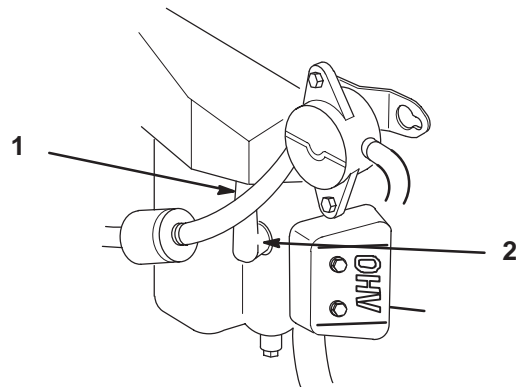

Figure 25
2. Pull the wire(s) off the spark plug(s) (Fig. 25). Now clean around the spark plug(s) to prevent dirt from falling into the engine and potentially causing damage.
3. Push the wire(s) onto the spark plug(s) (Fig. 25).